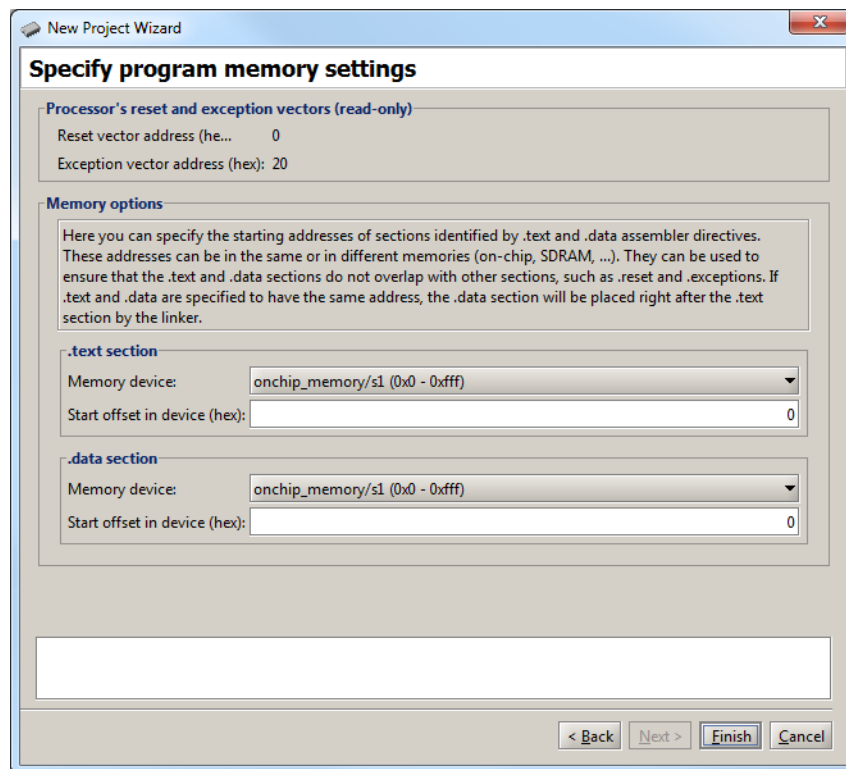

Figure 32. Specify where the program will be loaded in the memory.
9. The downloaded program is shown in Figure 32. Run the program and verify the correctness of the designed system by setting the slider switches to a few different patterns.